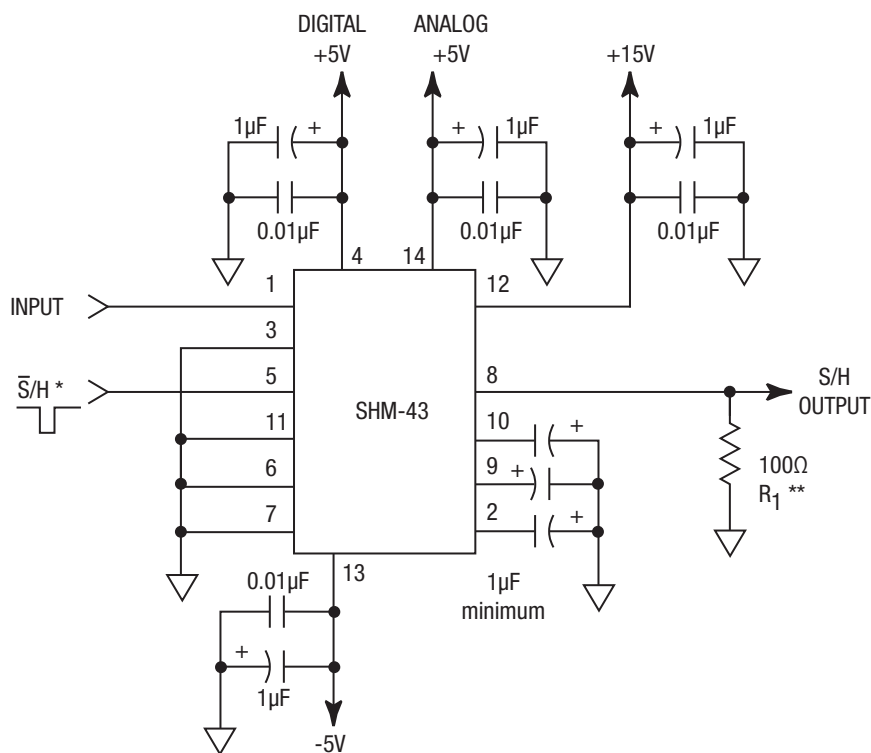

Figure 2. Test Circuit Connections
- Additional bypass capacitors are necessary, because of internal high switching speeds, and high slew rates of internal components. REF BYPASS (pin 2), +5 BYPASS (pin 9), and -5 BYPASS (pin 10) are internal connections that must be bypassed with a minimum 1 μ F tantalum capacitor mounted as close to the pin as possible. The polarity of the connections are shown on the test circuit drawing, Figure 2.